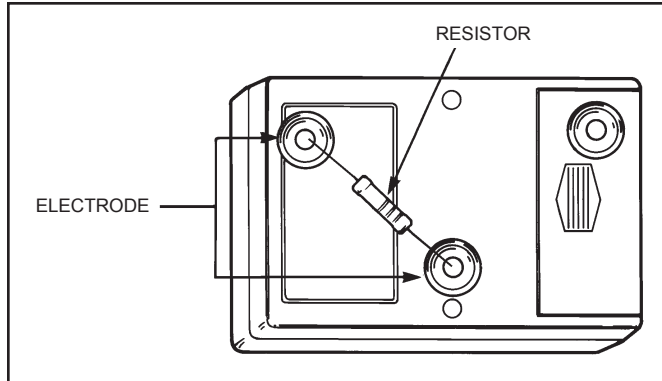

Figure 7. Calibration of the Mini Meg
A check on the function of the Mini Meg can be performed with the following procedure. You will need 1% resistors of the following values: 5 x 10E5 ohms; 5 x 10E6 ohms; 5 x 10E7 ohms; 5 x 10E8 ohms, 5 x 10E9 ohms, and 1 x 10E10 ohms. These precision resistors will be placed across the two electrodes on the bottom of the meter (see Figure 7).
B. Place the $1 \times 10E10$ ohms resistor across the middle electrode and the side electrode as illustrated in Figure 7. Press the test button. The second LED should light. Be sure not to contact the leads or the buttons as your body's resistance will affect the readings. Then use the $5 \times 10E9$, the 3rd LED should light. Continue down the line of resistors to test all the ranges.